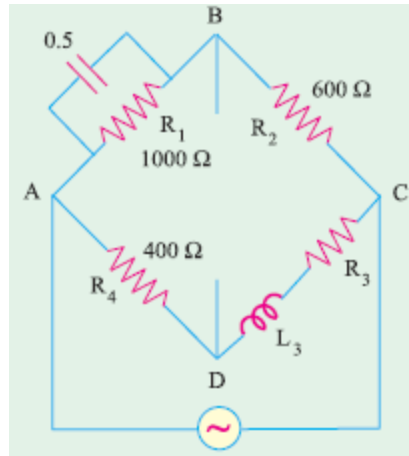

Figure 2
- 5C.** The arms of an AC Maxwell's Bridge are as follows: AB is a non-inductive resistance of 1000Ω in parallel with a capacitor of capacitance $0.5\mu\text{F}$, BC is a non-inductive resistance of 600Ω . CD is an inductive impedance (unknown) and DA is a non-inductive resistance of 400Ω . If a balance is obtained under these conditions, find the value of resistance and inductance of branch CD. (Refer Figure 2 below) (8+8+4)